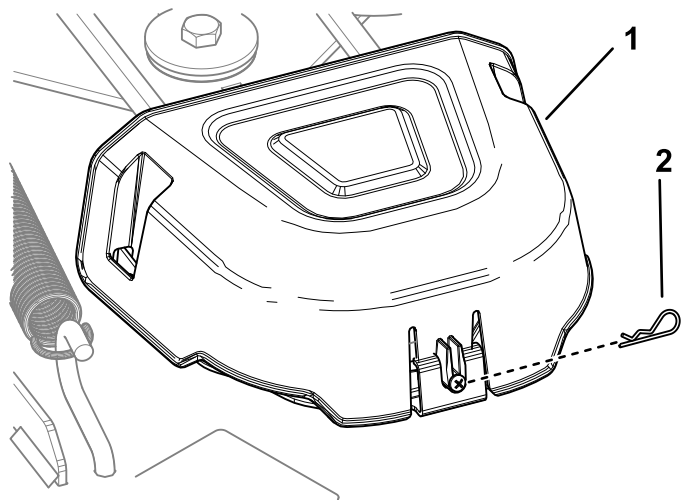

Figure 57
4. Remove the hairpin cotter and push in the tab on the cover to remove the pulley covers (Figure 57).